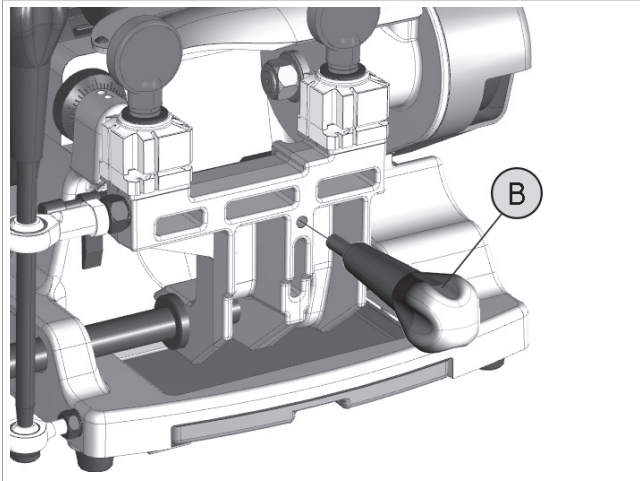

Fig. 10
Screw the handle (B) onto the carriage (Fig. 10).